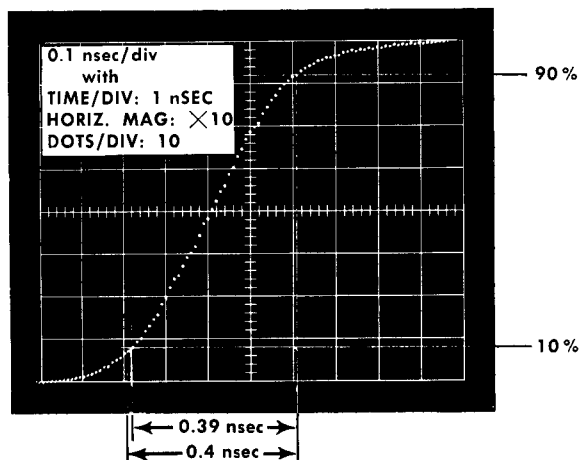

Fig 5-4. Visual risetime measurement without a Digital Unit.
- b. Set the Type 3T77 for an externally triggered display of 0.1 nsec/div by setting the TIME/DIV. switch to 1 nSEC and the HORIZ. MAG. to X10. The display should be similar to Fig. 5-4.